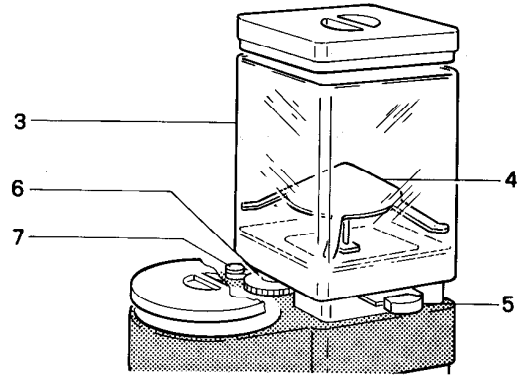

Fig.8
- Pull hopper closure lever 5 Fig.8;